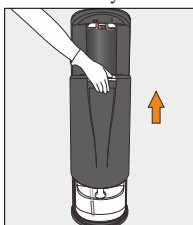

Figure 26
1. Open Dispenser Door (Figure 26). (Slide door upwards to allow access to bottle area)